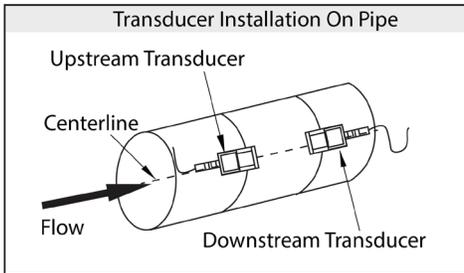

Figure 3. V Method for Transducer Placement
“Transducer Mounting” is the next setting. Using the  and  scroll to V indicating the V mounting method (see Figure 3). This is the easiest and most common mounting for smaller pipes. See Chapter 6 of the manual for other options. Press the  key to save.
As noted, this quick install guide is using the V method as our installation method. The V method is considered the standard installation method (See Figure 3). The V method is usually more accurate and works well on pipe diameters ranging from approximately 1 inch to 8 inches (25 mm to 200 mm). With all installation types, the V method requires proper installation of the transducer, contact on the pipe at the pipe's centerline and equal spacing on either side of the centerline.
4. One at a time, mount the transducer to the pipe at the marks you made. Observe the Upstream / Downstream labels on the transducers (see Figure 3). Note: The sensors have groves to place the pipe strap.